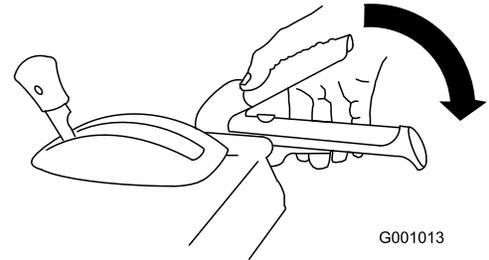

Figure 10
3. To engage the broom, slowly squeeze the right hand broom lever to the handle (Figure 10).